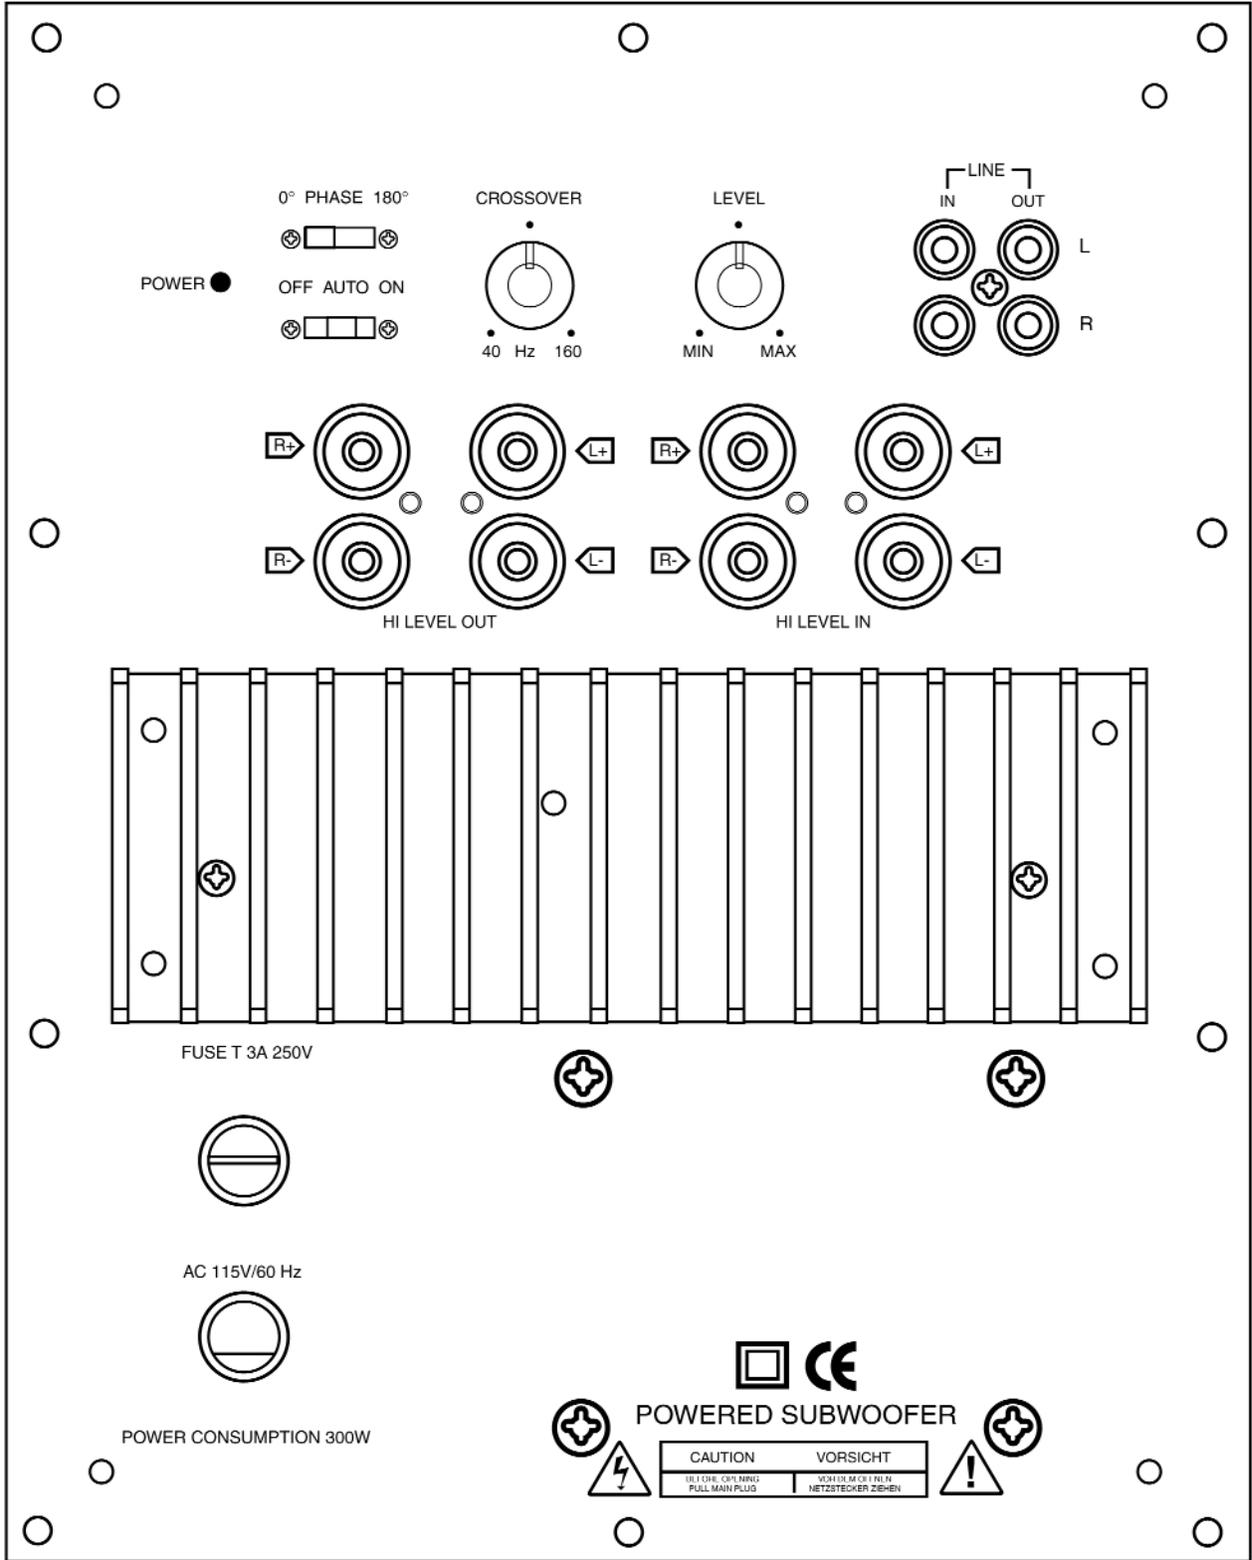

Figure 1. Thumper Subwoofer back amp plate.
- 7. Back panel diagram (figure 1)**
A. If using the high level inputs (fig. 1), it is highly recommended that you connect them in parallel with your main left and right loudspeakers.
*See figure 1 (Thumper back amp module plate)*
**Phase:** Located on the back panel (fig. 1). This switch allows the user to optimize the "phase" of the subwoofer output. This is important to properly integrate with your main speakers.